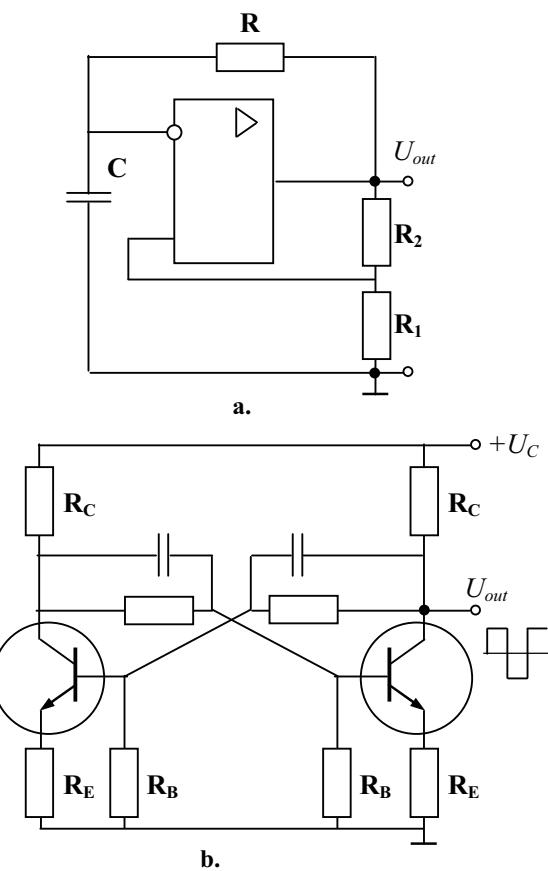

Fig. 2.54
**Astable multivibrators.** A *multivibrator* is a rectangle pulse generator with the positive feedback. A circuit diagram of an *astable multivibrator*, which has no stable state, is given in Fig. 2.54,a. It generates non-sinusoidal oscillations of determined frequency. Here, the op amp with positive feedback includes the capacitor **C** that is charged by the op amp output through the resistor **R**. When  $R_1 = R_2$ , the period of multivibrator is calculated as follows:
The same principle of operation has the astable multivibrator shown in Fig. 2.54,b. The circuit includes two interconnected transistor amplifiers. The input of the first amplifier is the output of the second one. Once the current of one transistor becomes higher than the other, the voltage drop grows on the resistor of its collector. This change is transferred through the corresponding capacitor to the base of the other transistor so that the current grows increasingly up to the first transistor saturation and the second transistor closing. After stabilizing the transient, the capacitor discharges and opens the closed transistor. Then the process repeats, and the current of the second transistor becomes higher than in the first one. The oscillation frequency depends on the resistances of resistors  $\mathbf{R}_B$  and on the capacitors.